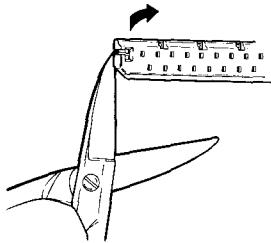

Fig. 14—Removing red insulator.
1. Disengage both alignment posts by prying ends of insulator downward with a tool (i.e. scissors) inserted into end slots. See Figure 14.